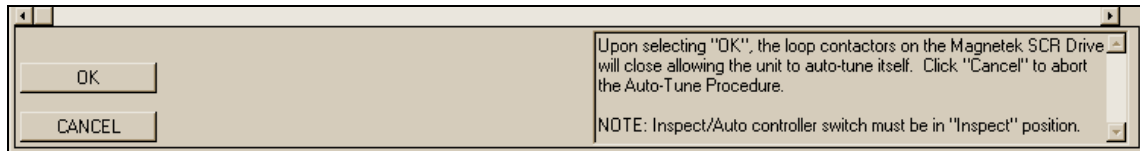

Figure 61
**DETAIL:** The **DETAIL** pushbutton sends the FLTN command to the elevator controller. When the elevator controller receives this command, it responds by showing a table as viewed in Figure 61.
The table shown in Figure 61 will show up to 5 of the most recent faults along with a time stamp of when they occurred. This time stamp is in the form of Days-Hours:Minutes:Seconds. Along with the time stamp, the table will give information on the **Car's Velocity**(CVel) and the **Demanded Velocity**(DVel) when the fault occurred. Other information includes the **Position**(DPP), the **Direction**(D), and the type of **Service**(S#) of the car at the time of the fault.